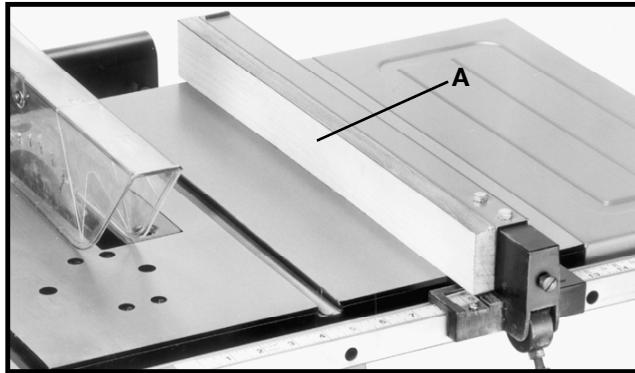

Fig. 50
Wood facings (A) Fig. 50 are necessary on some special operations to one or both sides of the rip fence. The wood facing is attached to the fence with screws through the holes in the fence. Most work will require a 3/4 " stock, although an occasional job may require 1" facing.